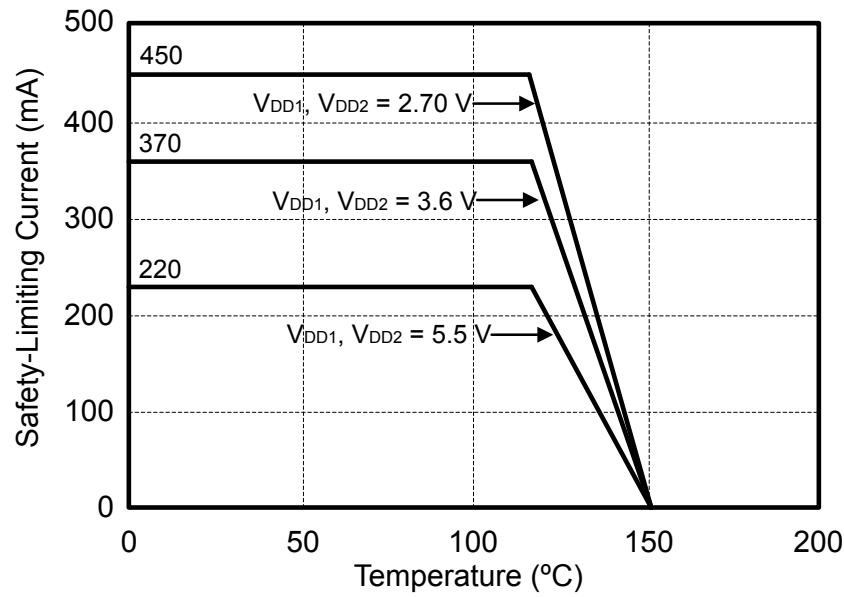
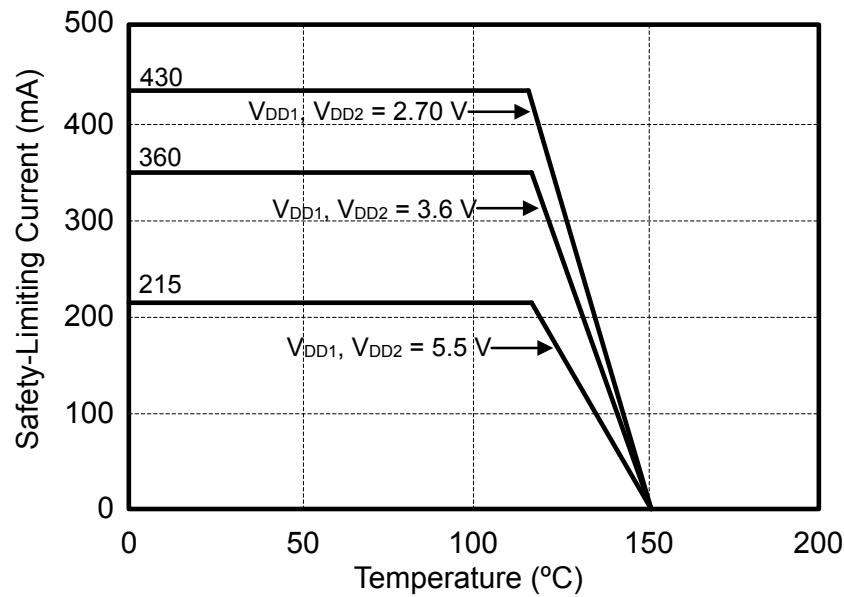
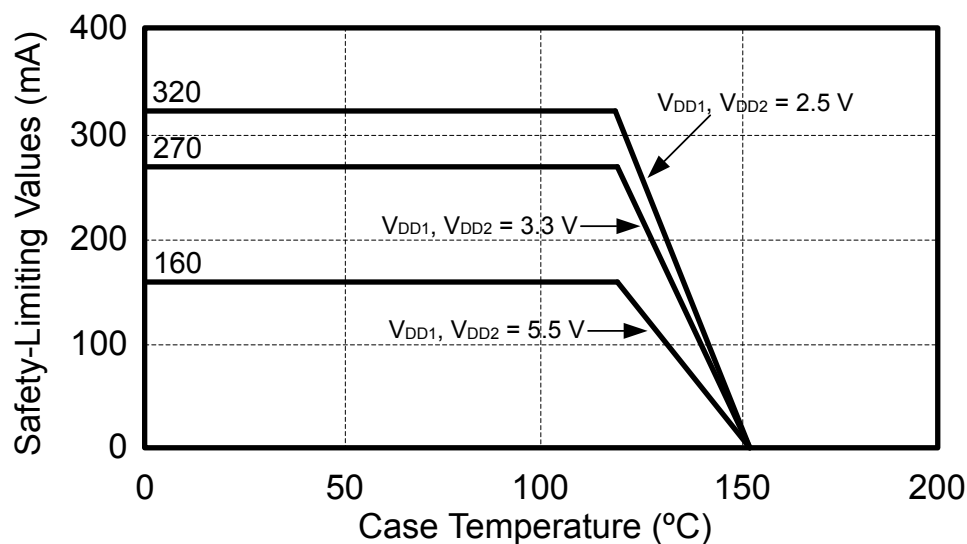
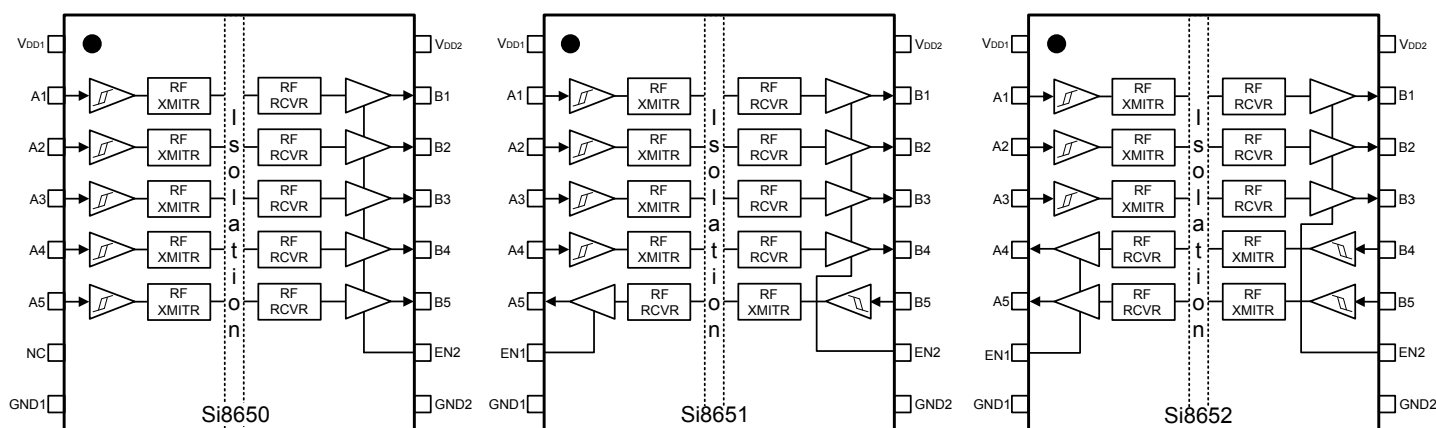

Figure 4.4. (WB SOIC-16) Thermal Derating Curve, Dependence of Safety Limiting Values with Case Temperature per DIN EN 60747-5-2
Figure 4.5. (NB SOIC-16) Thermal Derating Curve, Dependence of Safety Limiting Values with Case Temperature per DIN EN 60747-5-2
Figure 4.6. (NB SOIC-8) Thermal Derating Curve, Dependence of Safety Limiting Values with Case Temperature per DIN EN 60747-5-2
Figure 5.4. Si865x Pin Descriptions
- Maximum value allowed in the event of a failure; also see the thermal derating curve in Figure 4.4 Figure 5.4 on page 28, Figure 4.5 Figure 5.5 on page 28 and Figure 4.6 Figure 5.6 on page 29.